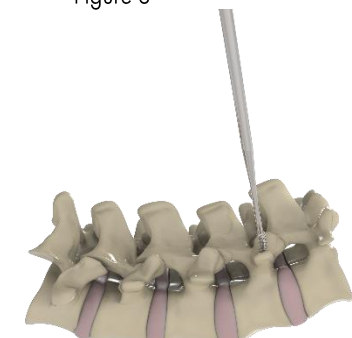

Figure 4
- f. Utilizing the depth measurements on the distal tip of the Tap as a guide, tap to the appropriate depth based on the pedicle screw length (Figure 4).